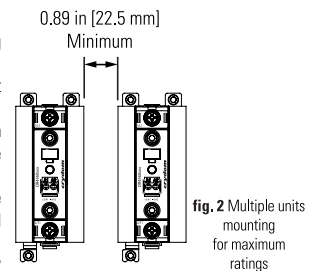

fig. 2 Multiple units mounting for maximum ratings
- To achieve maximum ratings, there must be a minimum spacing of 0.89 in (22.5 mm) between the devices in free air (as shown in fig.2).